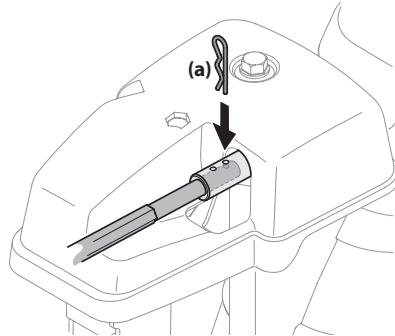

**Figure 2-28**
6. Insert chute control rod into pinion gear below joystick. Make sure to line up hole in rod with arrow on pinion gear. See Figure 2-28.